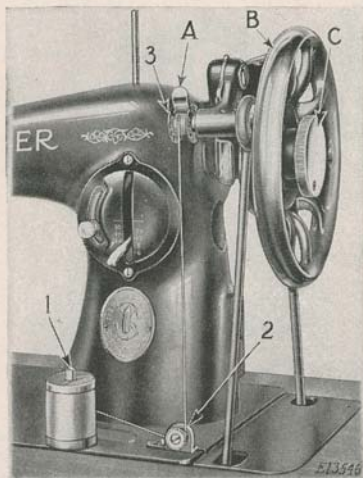

FIG. 5. WINDING THE BOBBIN
(SEE FIG. 5)
Release the balance wheel by turning the stop motion screw (C, Fig. 5) over toward you. It is necessary to hold the balance wheel (B) while loosening the stop motion screw.
the small pin in the shoulder enter the hole in the side of the bobbin. Put the spool of thread on the spool pin (1). Draw the thread under and between the tension discs (2) on the bed of the machine, then pass the thread up and through one of the holes (3) in the left side of the bobbin, from the inside. Press down on the bobbin and the bobbin winder latch (A, Fig. 5) will drop down and hold the bobbin winder pulley against the hub of the balance wheel. Then operate the machine the same as for sewing.
If the thread does not wind evenly on the bobbin, loosen the screw which holds the tension bracket (2, Fig. 5) in position on the bed of the machine and slide the tension bracket to the right or left, as may be required, then tighten the screw.